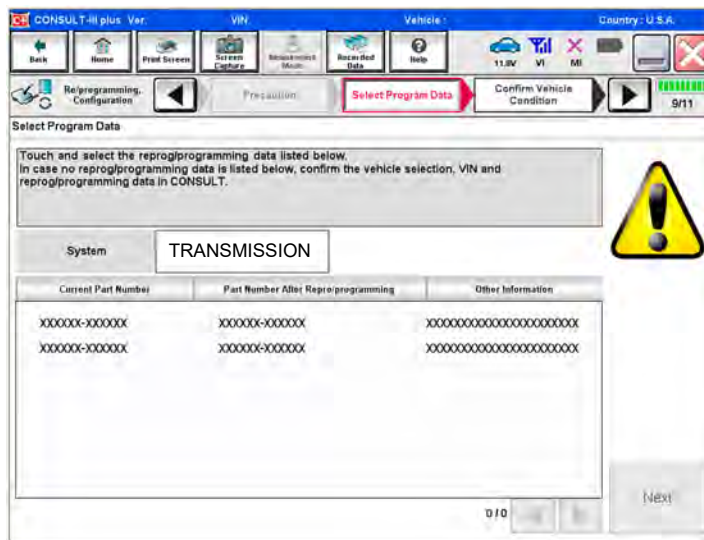

Figure 179
- If more than one new P/N is available, the screen in Figure 179 displays.